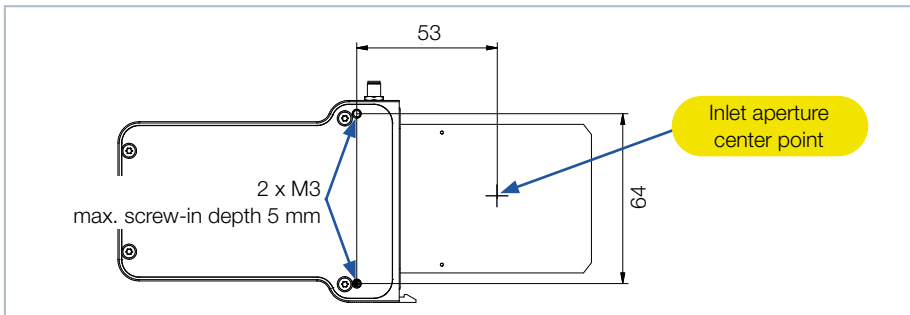

Fig. 6.2: Mounting threads in the housing (dimensions in mm)
2. Install the device with the mounting threads M3 at the bottom of the device (see Fig. 6.2 on page 22).
3. Unscrew two screws from the mounting threads M3 on the underside of the device (see Fig. 6.2 on page 22).